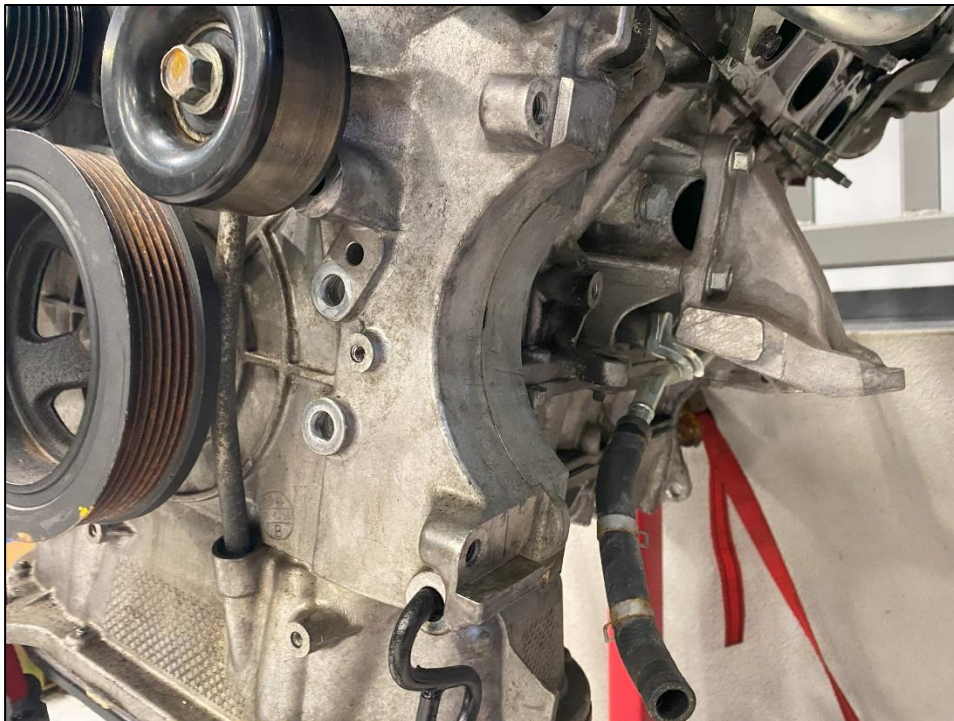

Figure 5
13. Your Engine should look similar to *Figure 5* below.